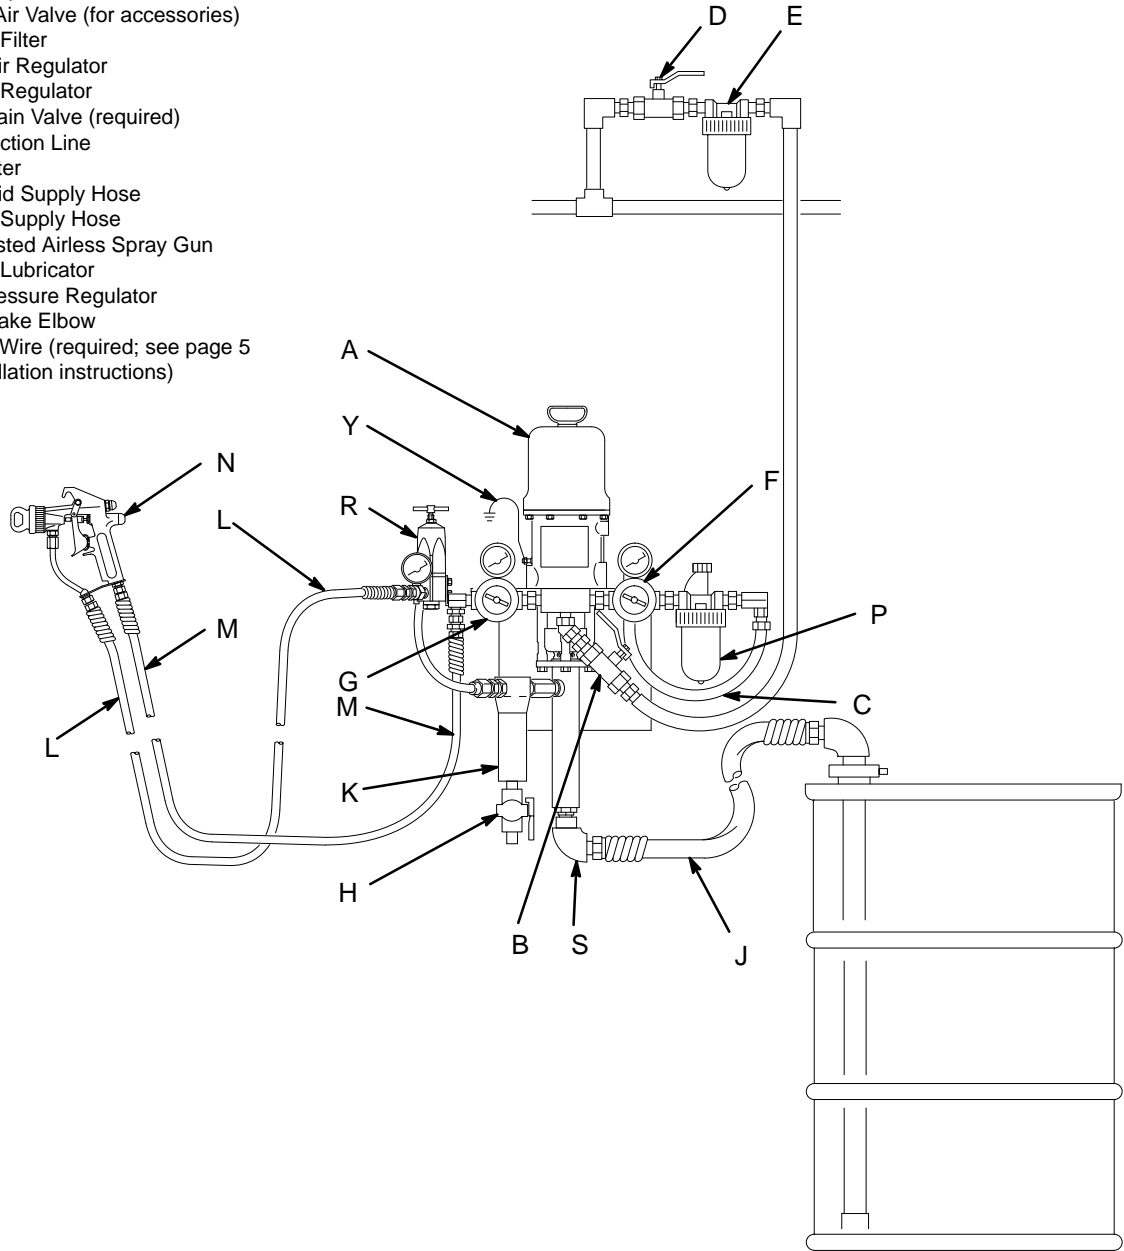

Fig. 3
The Typical Installation shown in Fig. 3 is only an example. For assistance in designing a system to meet your particular needs, contact your Graco distributor.
Refer to Fig. 3. Apply thread sealant and screw the suction hose (J) into the fluid intake elbow (S).